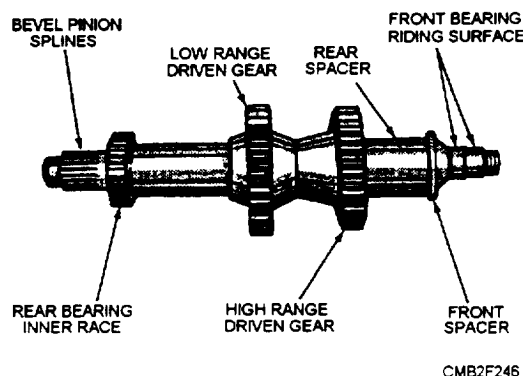

Figure 6-5.—Bevel pinion shaft.
- The BEVEL PINION SHAFT (fig. 6-5) consists of the high and low range gears, which are keyed to the shaft. The shaft is supported at the rear by a straight roller bearing, and, at the front, by a double-row taper roller bearing. The pinion gear is splined to the rear of the pinion shaft and is held in place by a nut. A shim pack is provided between the front bearing cage and the transmission case front cover for adjusting pinion depth.